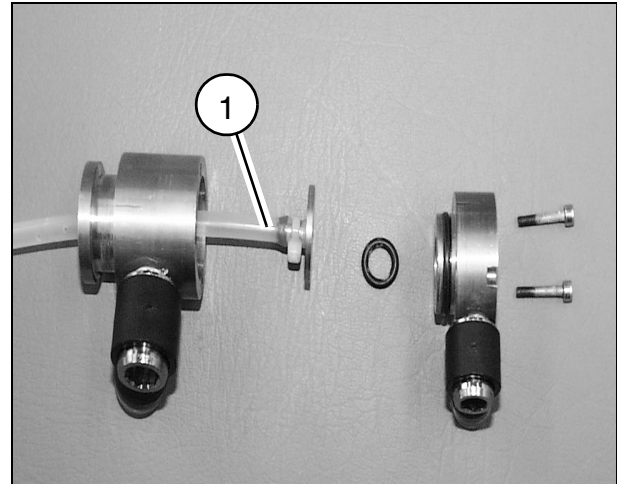

Fig. 22
- Remove the part with the air suction hose (1/ Fig. 22).